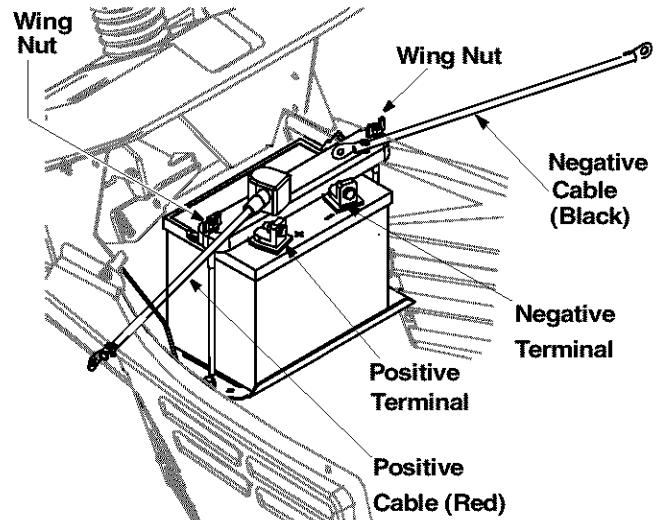

Figure 18
- Remove the hex bolt and nut from the negative (black) cable. Attach negative cable to the negative terminal with this bolt and nut. See Figure 18.
- Attach the positive cable (heavy red wire) to the positive battery terminal (+) with hex bolt and hex nut. See Figure 18. Slide the rubber boot over the positive terminal.
- Place the battery cover in position over the hold-down rods. Secure with wing nuts. See Figure 18.